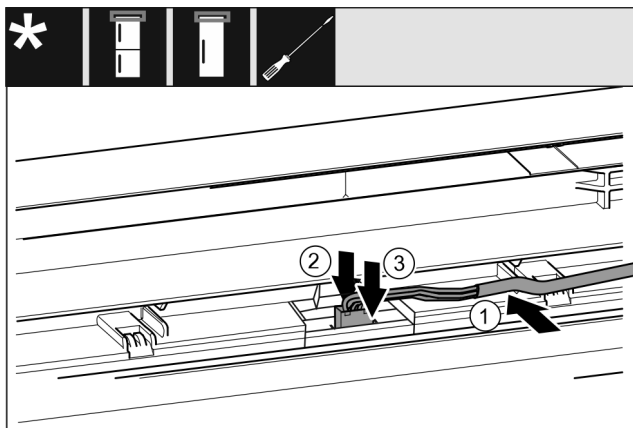

*Fig. 49 Fridge/freezer combinations / freezers / refrigerators**
- ▶ Insert the cable *Fig. 49 (1)* into the guide in the top door.*
- ▶ Push the latching tab *Fig. 49 (2)* backwards.*
- ▶ Engage the plug *Fig. 49 (3)*.*